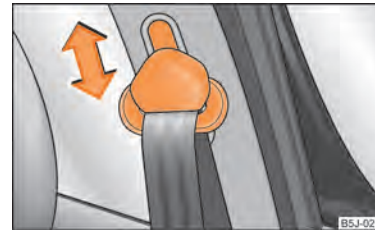

Fig. 95 Front seat: Seat belt height adjuster
- To adjust the belt height press the height adjuster and move it up or down ⇒ fig. 95.